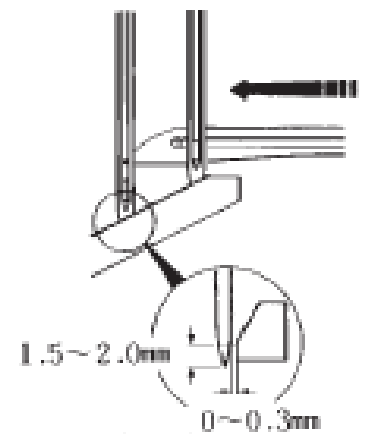

Fig. 15
J. Position of Front Needle Guard when the point of Loper passes at the center of Left Needle, The front Needle Guard must be at 1.5-2.0 mm above the needle point, and also there should be a clearance of 0-0.3 mm respectively between the point of Loper and each Needle.(Fig. 15) *By loosening Screw (A), adjust the height of Front Needle Guard so that the point of Loper will be at 1.5-2.0 mm above the point of left needle when passing center.